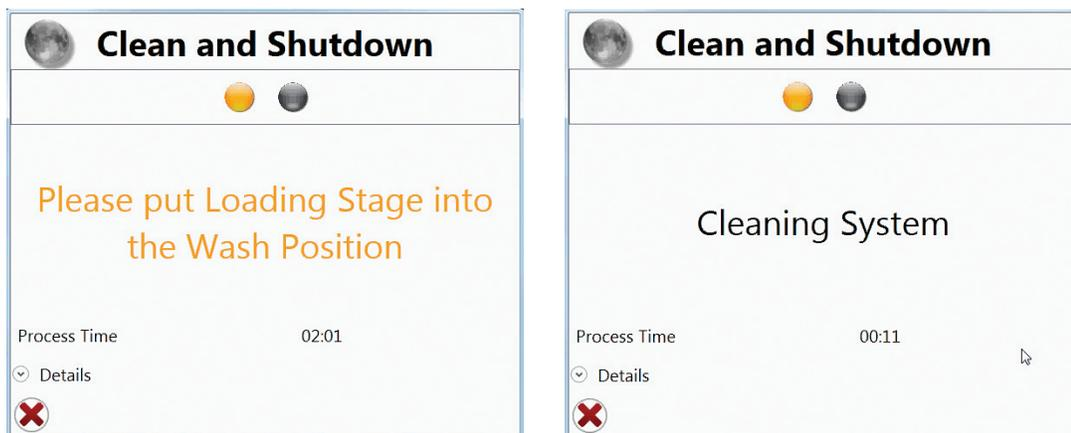

Fig. 92. Cleaning status windows.
8. The system will automatically run through the cleaning procedure, which takes approximately 2 min, while displaying status windows (Figure 92).